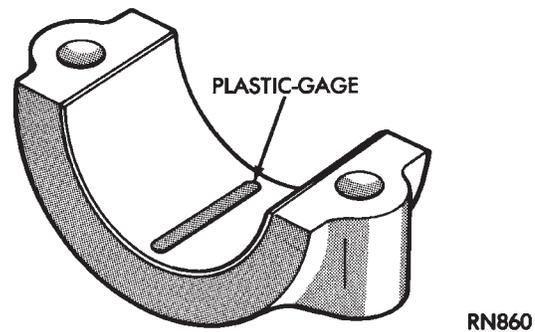
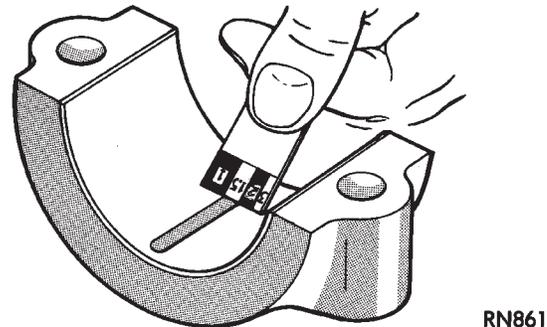

Fig. 2 Plastigage Placed in Lower Shell
Fig. 3 Clearance Measurement
(3) Place a piece of Plastigage across the entire width of the bearing shell in the cap approximately 6.35 mm (1/4 inch) off center and away from the oil holes (Fig. 2). (In addition, suspect areas can be checked by placing the Plastigage in the suspect area). Torque the bearing cap bolts of the bearing being checked to the proper specifications.
(4) Remove the bearing cap and compare the width of the flattened Plastigage (Fig. 3) with the metric scale provided on the package. Locate the band closest to the same width. This band shows the amount of clearance in thousandths of a millimeter. Differences in readings between the ends indicate the amount of taper present. Record all readings taken. Refer to Engine Specifications. **Plastic-Gage generally is accompanied by two scales. One scale is in inches, the other is a metric scale.**
(5) Plastigage is available in a variety of clearance ranges. The 0.025-0.076mm (.001-.003 inch) is usually the most appropriate for checking engine bearing proper specifications.
(1) Rotate the crankshaft until the connecting rod to be checked is at the bottom of its stroke.
(2) Remove oil film from surface to be checked. Plastigage is soluble in oil.
(3) Place a piece of Plastigage across the entire width of the bearing shell in the bearing cap approximately 6.35 mm (1/4 inch.) off center and away from the oil hole (Fig. 2). In addition, suspect areas can be checked by placing plastigage in the suspect area.
(4) Before assembling the rod cap with Plastigage in place, the crankshaft must be rotated until the connecting being checked starts moving toward the top of the engine. Only then should the cap be assembled and torqued to specifications. **Do not rotate the crankshaft while assembling the cap or the Plastigage may be smeared, giving inaccurate results.**
(5) Remove the bearing cap and compare the width of the flattened Plastigage (Fig. 3) with the metric scale provided on the package. Locate the band closest to the same width. This band shows the amount of clearance in thousandths of a millimeter. Differences in readings between the ends indicate the amount of taper present. Record all readings taken. Refer to Engine Specifications. **Plastigage generally is ac-**